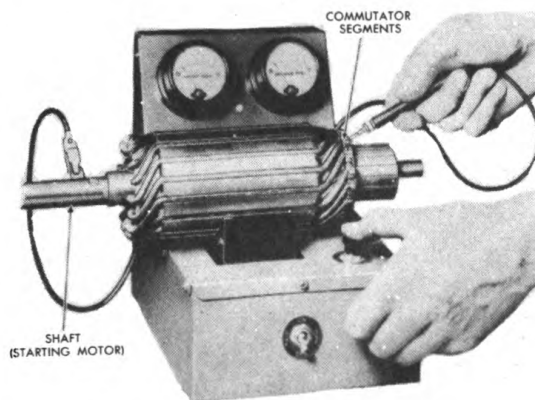
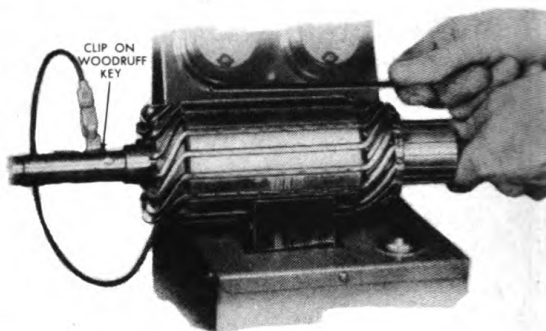

Figure 255. Testing Armature for Grounds.
Figure 256. Testing for Shorts on Growler.
2. With test probes, check the armature for grounds. Touch one probe to the shaft and touch each commutator segment in turn with the other probe as illustrated in Figure 255. NOTE: Do not touch the probes to the bearing or brush surfaces, as an arc would burn the smooth finish. If a ground is present, the lamp will light. Check the armature for shorts on a growler, as shown in Figure 256. Place the armature on the growler and hold a steel